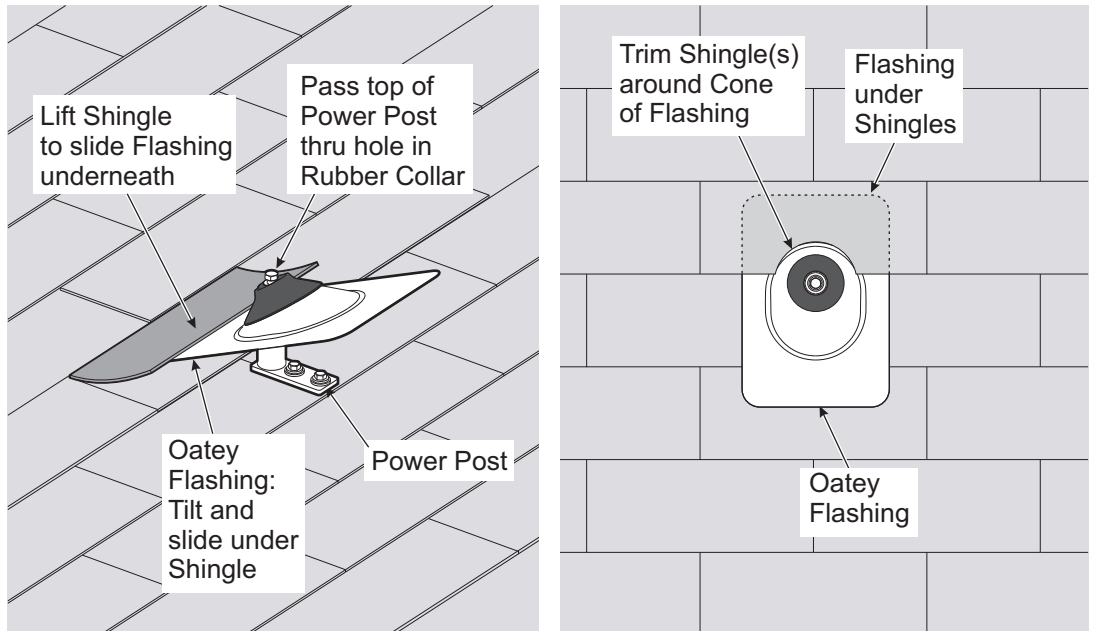

Figure 3-1: Sliding Oatey Flashing underneath Shingles and Trimming Shingles
- A. Align the top of the Offset Power Post with the hole in the Rubber Collar of the Oatey Flashing, passing it thru the hole. Place the flash under the row of shingles above the Power Post. This may require cutting a semicircular shape from the shingle to fit the shingle around the cone of the flashing. (See Figure 3-1)